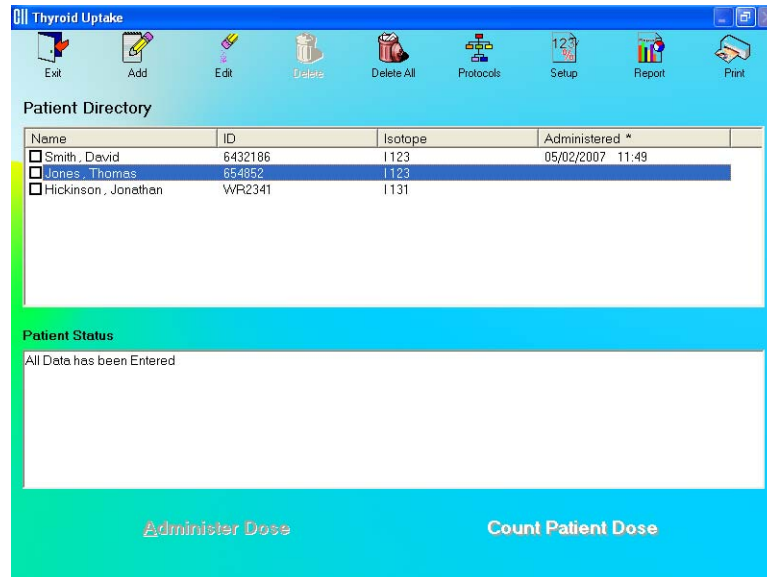

Figure 7-10
1. To select a patient to be edited, use the ↑ ↓ keys or *Page Up* and *Page Down* keys to move up or down in the patient list. If the list is long, the scroll bar is also available. To reach a particular patient, press the first letter of the patient name. Press the ↓ key if necessary, to go further down (Figure 7-10).